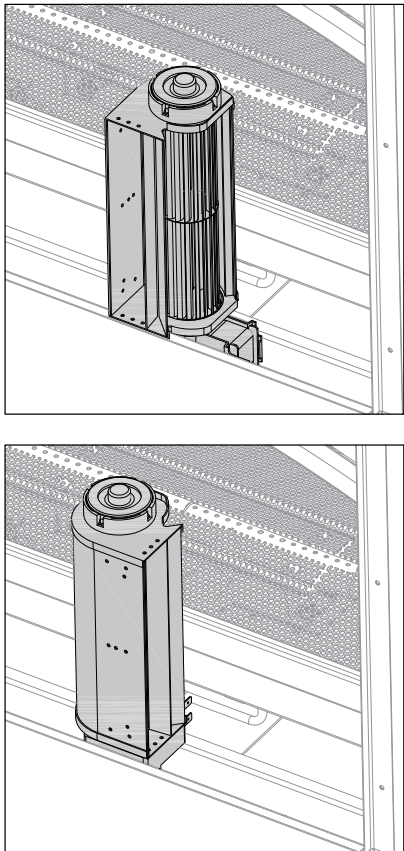

Figure 9.2, Steps 3 and 4
3. With the motor end of the fan's right side facing down and to the right, insert fan into chamber (FIGURE 9.2).
4. When the motor end clears the fireplace face, turn the fan to the left (FIGURE 9.2).